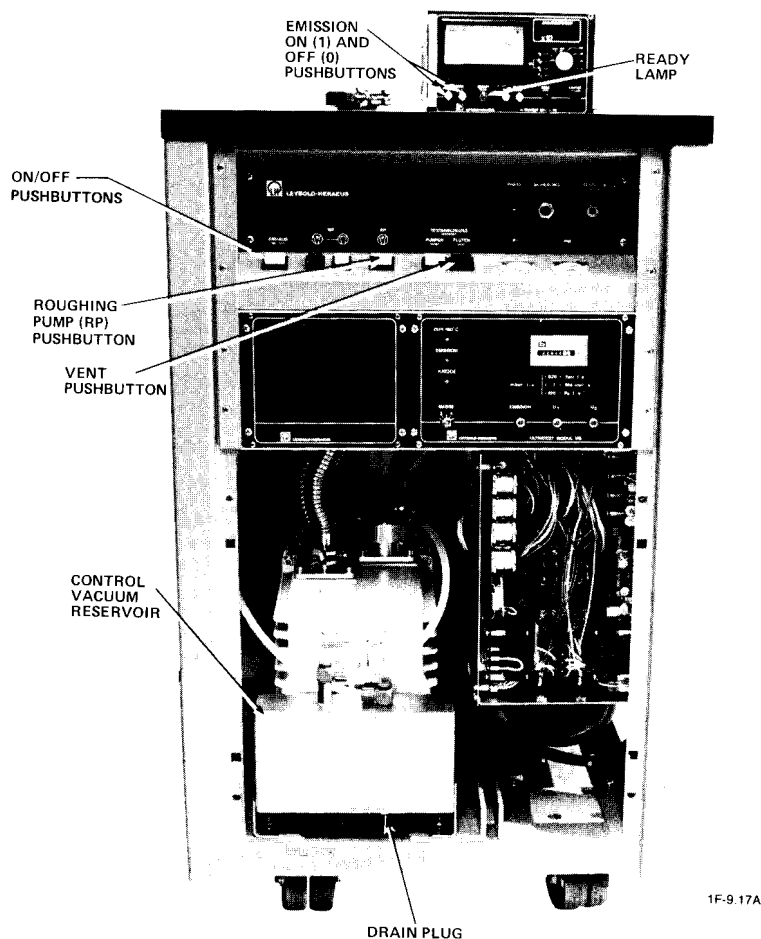

Figure 6-5 - Front View of Leak Detector Showing the Control Vacuum Reservoir
1. Tap the VENT pushbutton (see Figure 6-5).
2. Press the ON/OFF pushbutton to shutdown the ULTRATEST (see Figure 6-5).
10. Press the ON/OFF pushbutton to start-up the ULTRATEST (see Figure 6-5).
1. Tap the VENT pushbutton to close valves V1 and V2 (see Figure 6-5).
2. Turn off the EMISSION (see Figure 6-5).
13. Slowly open valve V5, monitor PII until it drops to 10-3, and switch ON the emission (see Figure 6-5). The emission control may cut out again because of degassing the filament. If so, switch it ON again.
Drain the pump fluid from the control vacuum reservoir as follows (see Figure 6-5).
The ULTRATEST F consists of the leak detector and an FB module. The FB module attaches magnetically to the top of the leak detector (see Figure 6-5). The FB module contains all the measuring and control elements for operating the leak detector. The leak detector includes the mass spectrometer, the electronics that support the mass spectrometer and automatic valves, and the vacuum system including pumps, valves, and the cold trap (see Figure 7-1, 7-2, and 7-3).